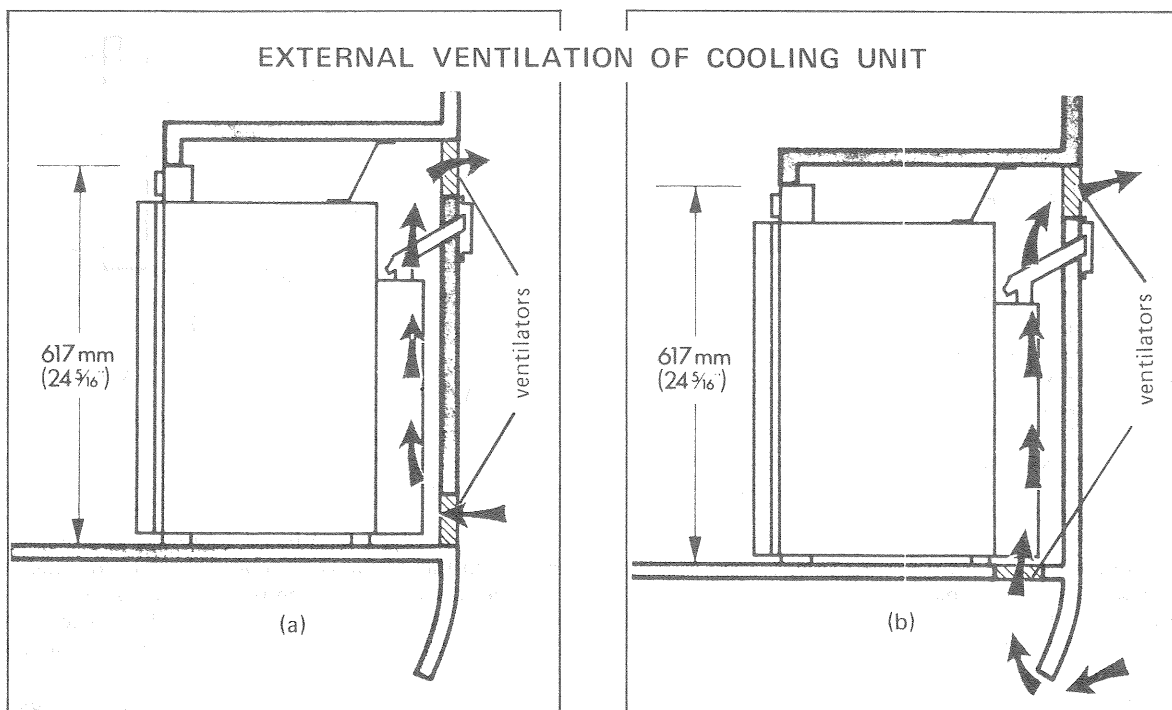

FIG. 5
- b) A pair of ventilators (part No. 2901913 for a pack of two) for fitting in the wall, or wall and floor, of the caravan when the refrigerator is installed as shown in fig. 5, with wholly external ventilation of the flue and cooling unit.
The alternative is wholly exterior ventilation (figs. 5 and 12) by means of two ventilators (in addition to the flue-venting kit) fitted at the rear of the refrigerator. The lower ventilator may be positioned in the caravan wall (fig. 5a), or in the floor, under the back of the refrigerator, (fig. 5b). This method of installation is useful where height is limited, and where warmth from the air passing over the cooling unit is not desired inside the caravan.